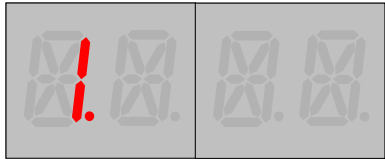
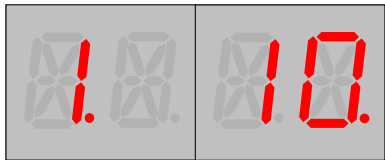

Figure 6a: Entering Settings Mode. SV 1 is displayed with decimal point to the right. No value shown while navigating among SVs.
Figure 6b: SV with its stored value. SV 1 has a stored value of 10. Stored value is indicated with decimal point to the right of the value.
Upon selecting **S** with the 3-way Mode Switch, the Defect Detector enters Settings Mode and will show SV 1, but not a value, on the Display. See **Figure 6a**. Axle Sensors are ignored while in Settings Mode.
While in Settings Mode, the Display shows the number of the current SV, followed by a decimal point. (See **Figure 6a**.) A value for an SV is shown to the right of this decimal point. (See **Figure 6c**.) If this value is the currently stored value for the SV, there is another decimal point to the right of the value. (See **Figures 6b** and **6d**.) Selecting either the **A** or **C** position on the 3-way Mode Switch will exit Settings Mode. The Defect Detector will immediately begin operation.
5. Pressing the SELECT pushbutton stops navigation among SVs and displays the stored value of the displayed SV. SV value can now be changed as described in “Changing SV Values” below. See **Figure 6b**.
2. Use UP and DOWN to increase or decrease the displayed SV value. See **Figures 6b** and **6c**.
6. Pressing the BACK pushbutton will stop display of values and return to navigating SVs as described above. See **Figure 6a**.
SV 15, our target, is displayed. Compare to **Figure 6a**.